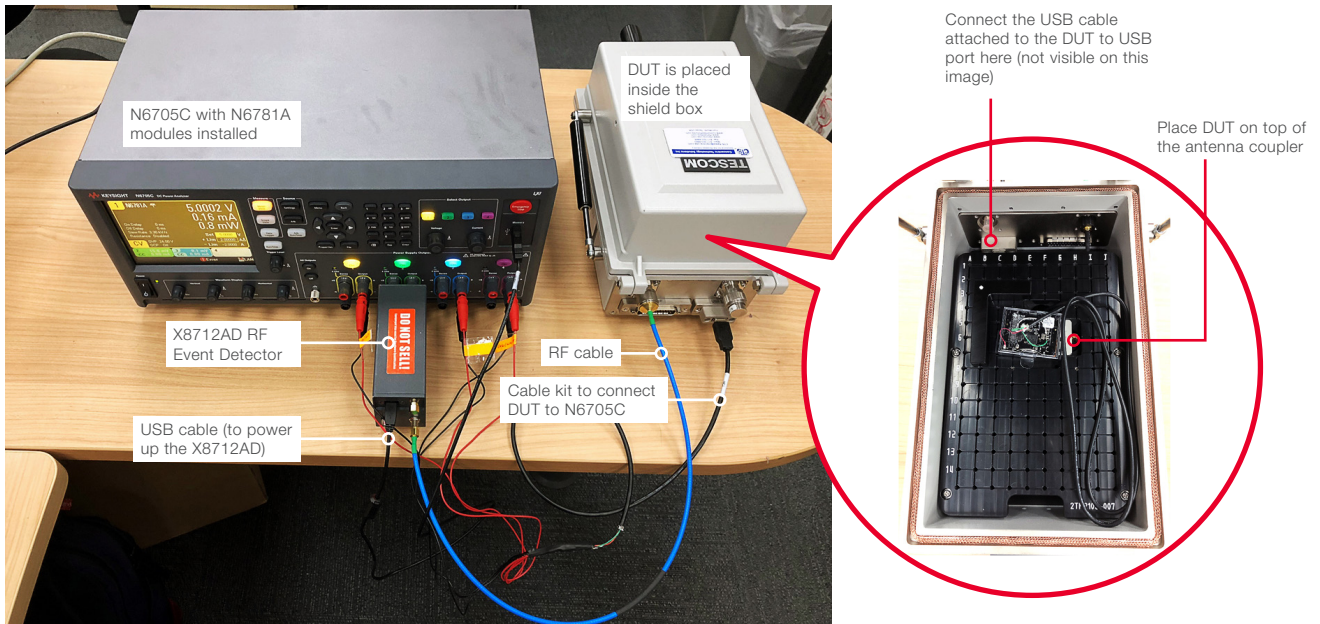

Figure 4: Connection diagram using Texas Instruments BLE sensor tag as the device under test
Connect the PC, instruments and accessories as shown in Figure 4.
- Connect the USB cable attached to the BLE sensor tag (DUT) to the USB port inside the shield box as shown in Figure 4. The USB cable should go through a hole in the middle of the shield box and connect to the USB port inside the shield box.